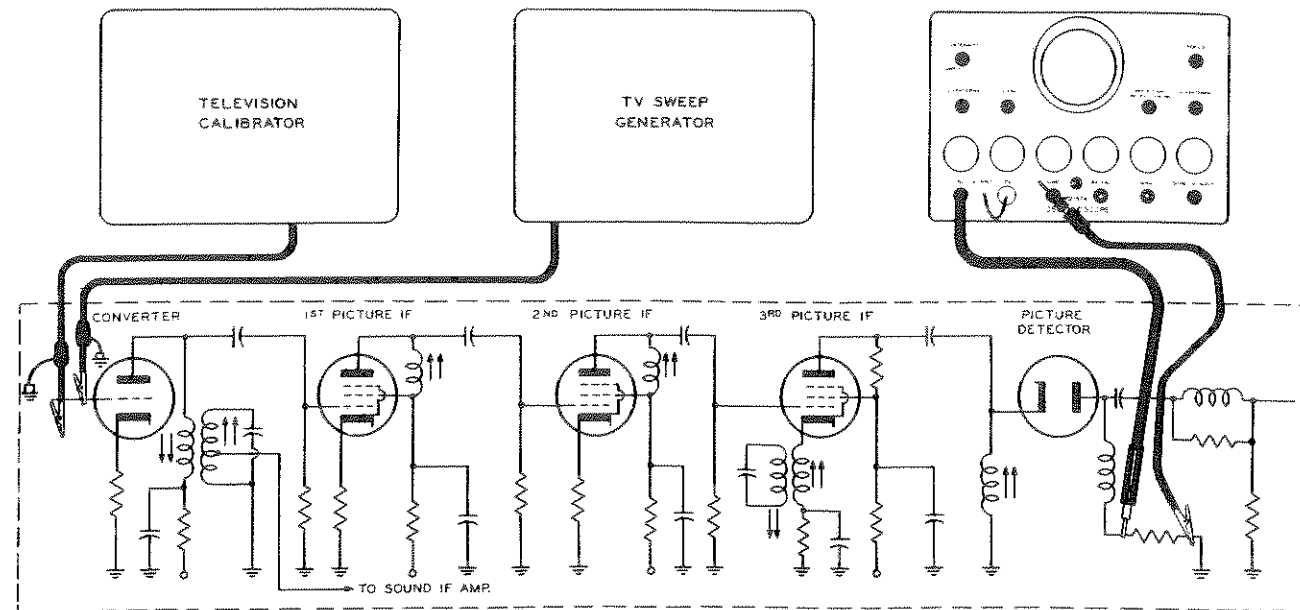

Figure 5. Setup for Alignment of Picture-IF Amplifier
Because of the unusual shape of the picture-if amplifier response curve, visual alignment is required. In addition to the WO-57A Oscilloscope, a sweep generator, such as the RCA WR-59B Television Sweep Generator, and a marker oscillator, such as the RCA WR-39B Television Calibrator, are needed. The setup is as shown in Figure 5. The manufacturer's service notes should be consulted for alignment instructions, but a general alignment procedure is as follows:
1. Set up the equipment as shown in Figure 5. Tune the sweep generator to sweep the picture-if frequency.